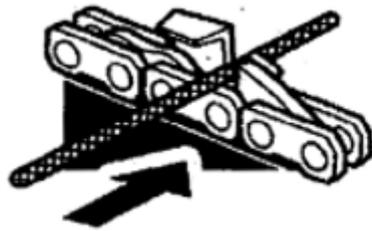

Fig.24
- 3.Hold the lever of the file with the top of the tooth. See Figure 24.